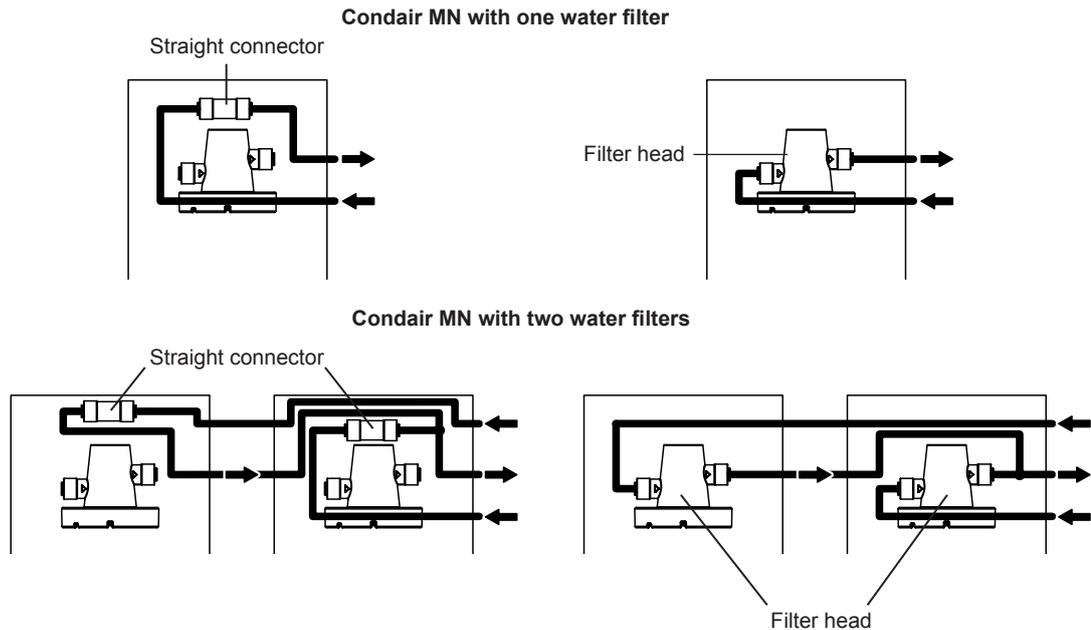

Fig. 75: Connect the inlet and outlet hoses to the filter head(s)
- Remove the straight connector(s) to which the inlet and outlet hose(s) are connected in the housing(s) of the water filter(s) and reconnect the hose(s) to the filter head(s) (see Fig. 75).